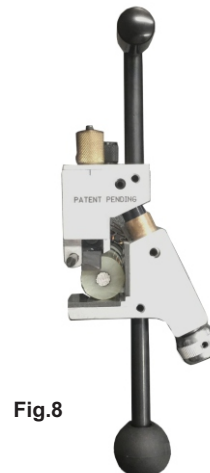

Fig.8
3. Set the blade depth approx 1/32" - 1/16" above the conductor. Fig.8